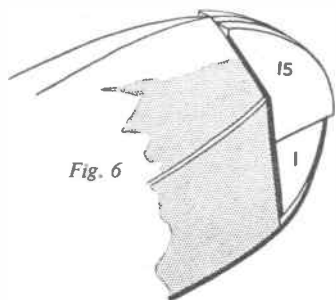
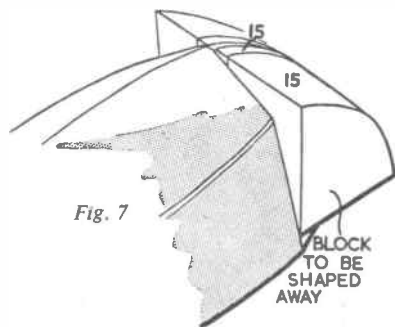

Fig. 6
Fig. 7
Next glue in place the $\frac{1}{2}$ in. bow blocks (15), one on each side of the keel (Fig. 6). Now the two $1\frac{1}{2}$ in. thick blocks (15) are glued in place as seen in Fig. 7. When the cement is dry, shape away with a modelling knife and glasspaper down so as to maintain the contour of the hull and the deck.